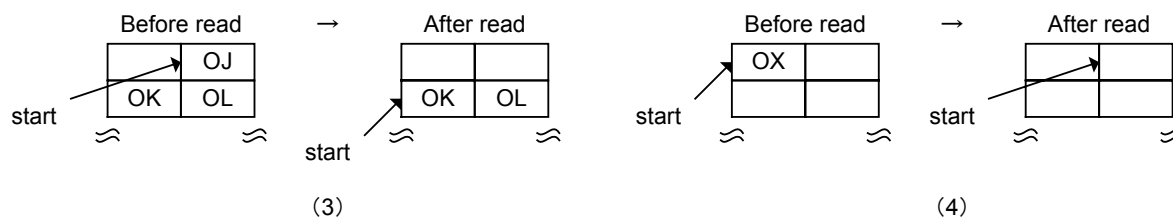

Fig. 6.84 FIFO read processing (operations that require caution)
Shown in (3) of Fig. 6.84 is an operation in which data is read wordwise using the FIFO_Rd_0,1 registers while a byte boundary exists. Indeterminate data is output to the High side, and data J is output to the Low side. The read pointer increments for only 1 byte of data. Shown in (4) of Fig. 6.84 is an operation in which data is read wordwise using the FIFO_Rd_0,1 registers while no byte boundary exists but the remaining bytes of data = 1. Data X is output to the High side, and indeterminate data is output to the Low side. The read pointer increments for only 1 byte of data.